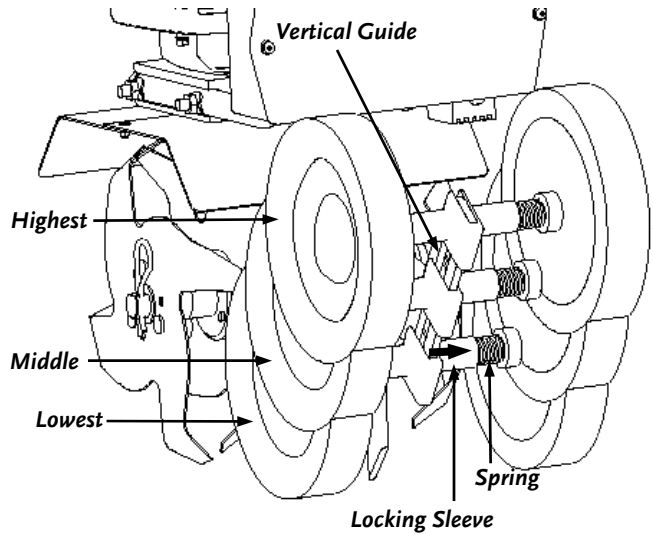

Figure 5
You can adjust the Wheels on the DR PILOT 2 Cycle Tiller/Cultivator to one (1) of three (3) positions (**Figure 5**). Use the lowest Wheel position for transporting the machine across a smooth level surface while the Engine is not running. Use the two (2) higher positions for tilling in soil and to help stabilize the unit when tilling at different depths.
1. Pull the Locking Sleeve toward the Wheel against the Spring until it releases from one of the three (3) holes in the Vertical Guide.
2. Slide the Wheel Set up or down to the desired position, and then release the Locking Sleeve until it locks into one (1) of the three (3) Holes in the Vertical Guide.